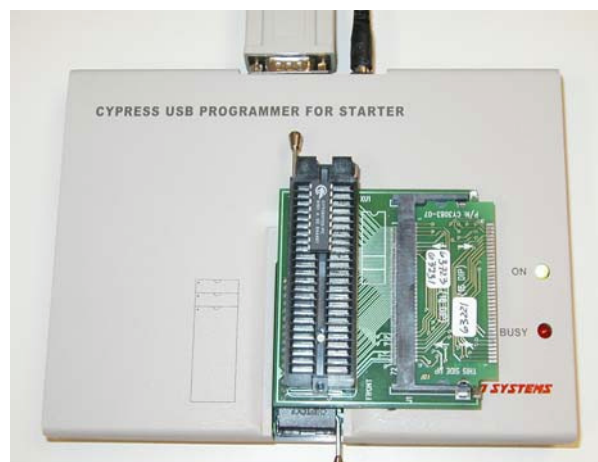
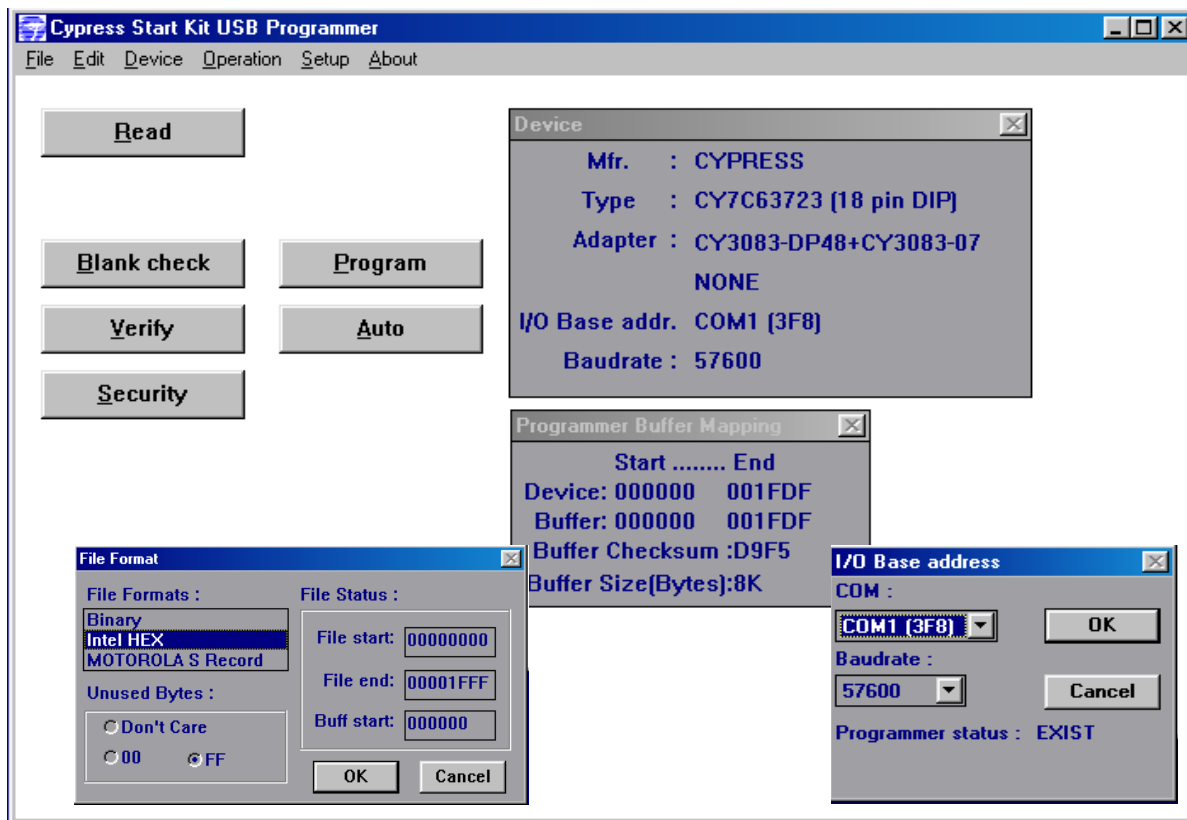

Figure 1 Hi-Lo Programmer's Hardware
Figure 2 Hi-Lo Programmer CYSTART Software (GUI)
Figure 1 below shows the adapter inserted into the programmer's socket, and the matrix card inserted into the adapter. Figure 2 shows the Cystart.exe GUI running on the PC.
4. Put the Adapter Base into the zero-insertion-force (ZIP) socket on the programmer and push the lever on the programmer down to lock the Adapter Base in its position. Pin 1 of the Adapter Base should be at the top left position on the socket as shown in Figure 1.
6. Open the Cystart.exe software on the PC. See *Figure 2*.
- The chip is incorrectly positioned on the Adapter Base’s socket. The chip should be top justified on the socket, i.e., pin 1 of the chip should be placed at the top, left position on the socket. See *Figure 1*.
- The chip is not locked on Adapter Base. Pushing the Adapter Base’s lever forward locks the chip on the ZIP socket. See *Figure 1*.